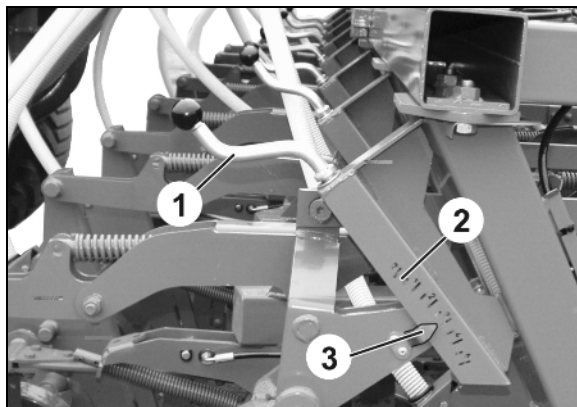

Fig. 95
8. Open the injector sluice flap (Fig. 95/1).
Risk of contusions on opening and closing the injector sluice flap (Fig. 95/1).
Hold the injector sluice flap only by the lug (Fig. 95/2), otherwise there is a danger of injury if the spring-loaded injector sluice flap (Fig. 95/1) snaps shut.
Never insert your hand between the injector sluice flap (Fig. 95/1) and the injector sluice.
10. Close the injector sluice flap (Fig. 95/1) with special care (risk of crushing).
12. Open the injector sluice flap (Fig. 95/1).